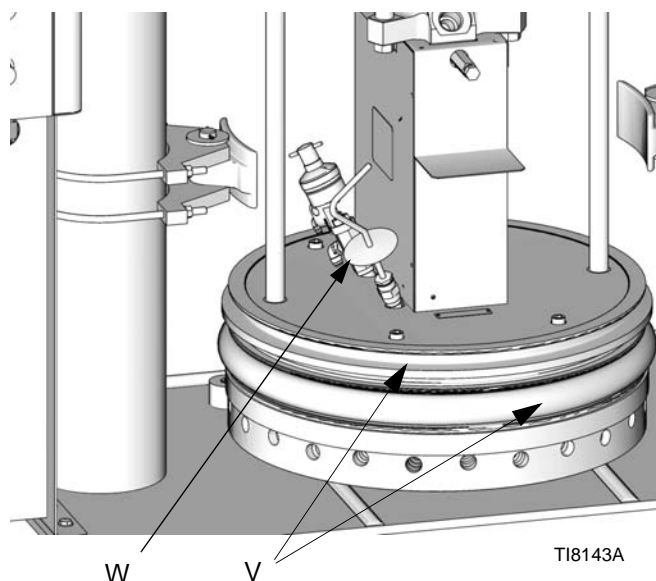

FIG. 20: Platen
5. Apply a thin coating of high temp grease lubricant (part no. 115982) to the platen drum seals (V). See FIG. 20.
9. Remove the platen bleed handle (W). See FIG. 20.
12. After the platen seals (V) enter the material drum, adjust the ram DOWN air regulator (P) to 30-50 psi (207-345 kPa, 2.1-3.4 bar). See FIG. 19 and FIG. 20.
13. When the ram stops, reinsert the platen bleed handle (W) and hand tighten. See FIG. 20.